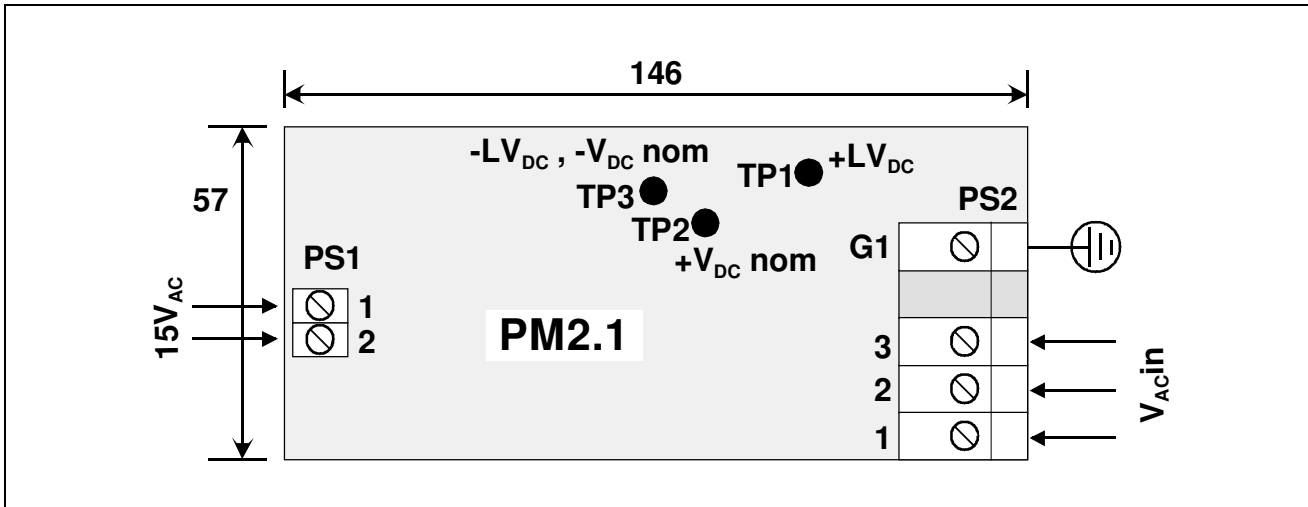

Fig. 6 - SUPPLY MOTHERBOARD REAR VIEW (FROM SCREW CONNECTOR SIDE)
- 8.5 - Motherboard PM2 is a printed circuit board, which is mounted on the rear rails of a 3 units rack. The motherboard holds, on the face towards rack front, a DIN 41612 form D connector (where Power Supply PS03, PS04 or PS06 is inserted) and, on the back face, two screw-type terminals (PS1 and PS2 in fig. 6) PS2 is used for the connection of the secondary winding of the power transformer, where PS1 is used for the connection of secondary 15 VAC winding, when customer needs a 12 VDC voltage for auxiliary purposes. This auxiliary voltage is not necessary for drives operation and therefore connection to PS1 have to be done only if they are needed from the user. The three